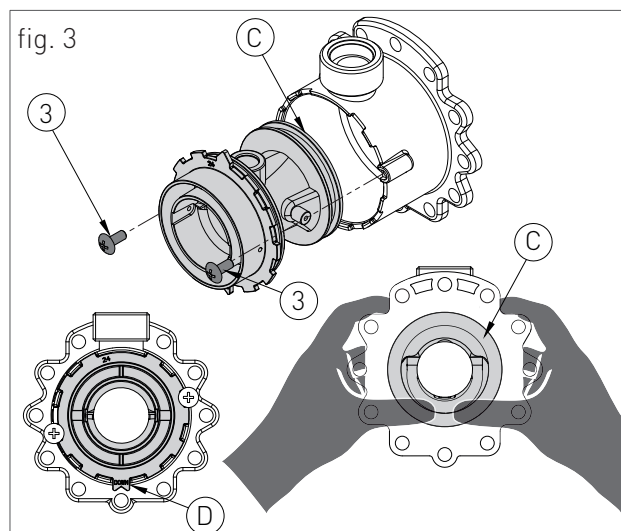

fig. 3
- › remove the two screws '3' (fig.3) and apply pressure on the rear side of venturi 'C' (fig.3);
- › replace the body venturi with the one suitable for the type of supply gas (cod. 30-00225 for methane / cod. 30-00226 for GPL) and make sure the tooth 'D' (fig.3) is adjusted downwards on the aluminium ring nut (see fig.3);